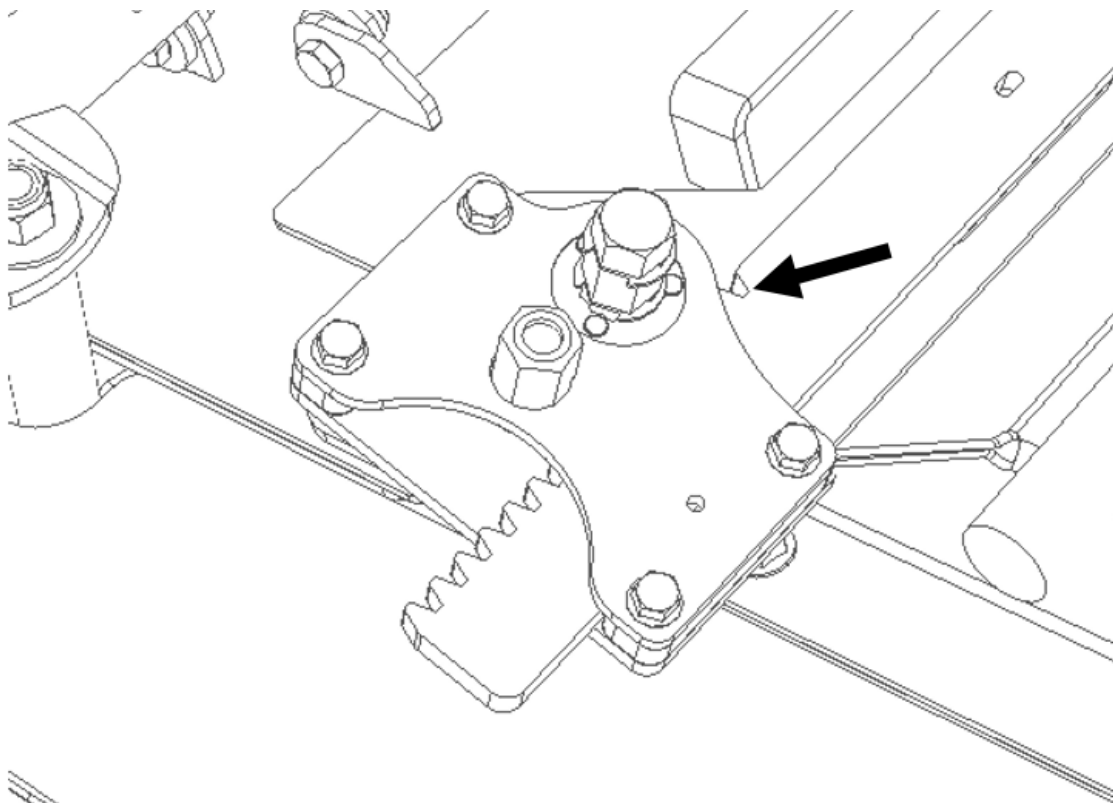

Figure 112 Rack & pinion adjustment
4. Tighten the far side locking rod (item 1) to approximately 60 lb-ft (75 N.m). Using the near sided section of the rack assembly, turn the gear (item 2) to move the rack to obtain 1 visible tooth as shown in Figure 112 Rack & pinion adjustment or until the rack extends approximately 1-3/8" from the base.